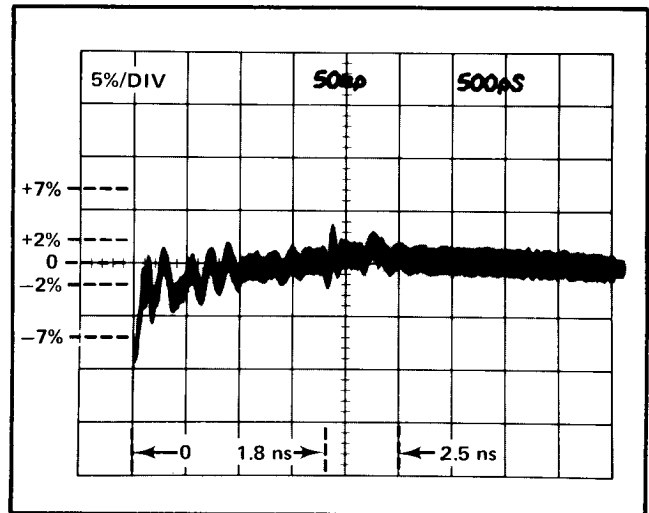

Fig. 5-6. Pulse aberrations of the S-6, S-52 and 7S12 system.
g. Set the Time-Distance Multiplier at X.1 and the Time/Div switch at 500 ps. Adjust the Time-Distance control to position the point which is 2.5 ns from the start of the pulse at the graticule center. See Fig. 5-6.
h. CHECK that the aberrations are within +2%, -2%, total of 4% P-P after 2.5 ns of the pulse edge. See Fig. 5-6.